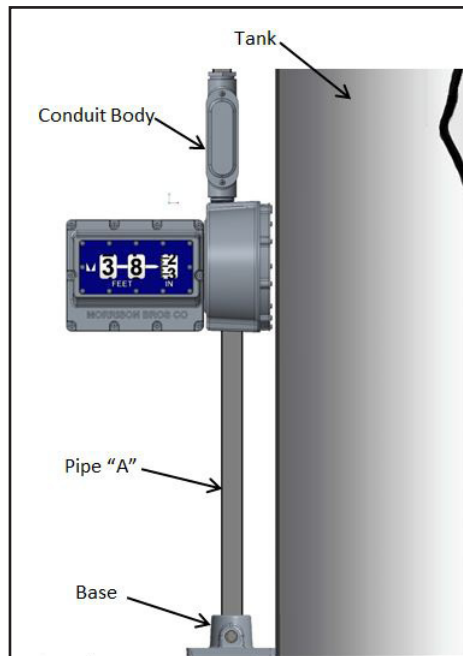
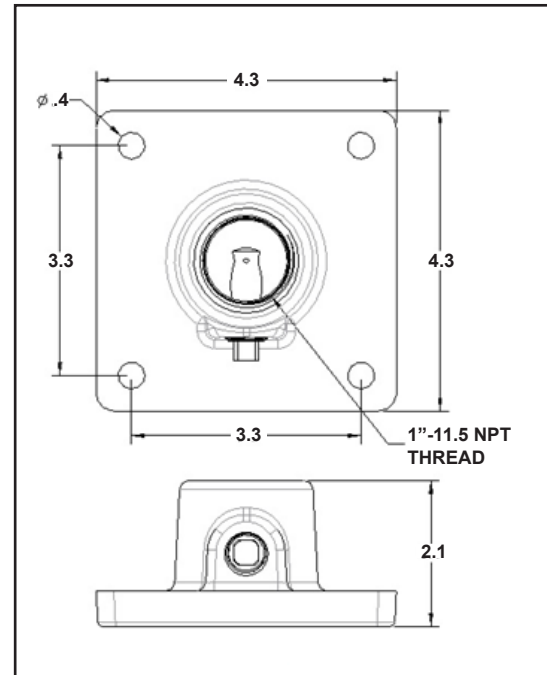

Figure 2
Figure 3
5. The 1618 gauge is to be mounted at eye level using the supplied base (See Figure 2.) Cut pipe "A" to a length that positions gauge at eye level and then thread both ends of pipe, refer to table 1 for pipe thread size, inside diameter of pipe must be free of burrs. Apply PTFE tape to the male threads on both ends of the pipe. **DO NOT use any pipe dope as this may get on the gauge cable and cause a malfunction.** Thread pipe into the based and then thread the gauge onto pipe "A".
6. Position gauge next to tank in the desired location, see Figure 2. Once the gauge is in position anchor the base, using the holes in the base (See Figure 3) and concrete anchor bolts (not supplied). You can also use an optional tank bracket to anchor the gauge to the side of the tank (See Figure 21.) If you choose this method you will not use the base.